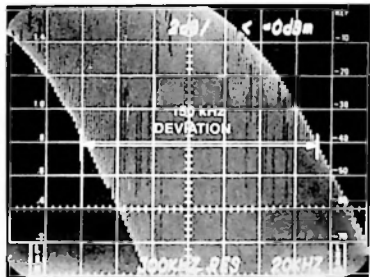

Fig. 16. 100% Modulation Indication on Rf Spectrum Analyzer
2. Modulate the transmitter through a 600 ohm attenuator with a 1000 Hz tone until the spectrum analyzer indicates a deviation of 150 kHz (\pm 75 kHz) as shown in figure 16. This is 100% modulation for a monaural fm station.